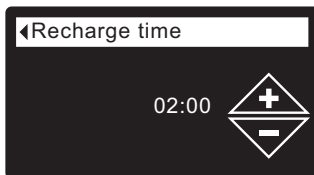

FIG. 55
5. Press the SELECT (O) button to display the Recharge time screen (See Figure 55).
3. Press the SELECT (O) button to display the User preferences menu (See Figure 55).